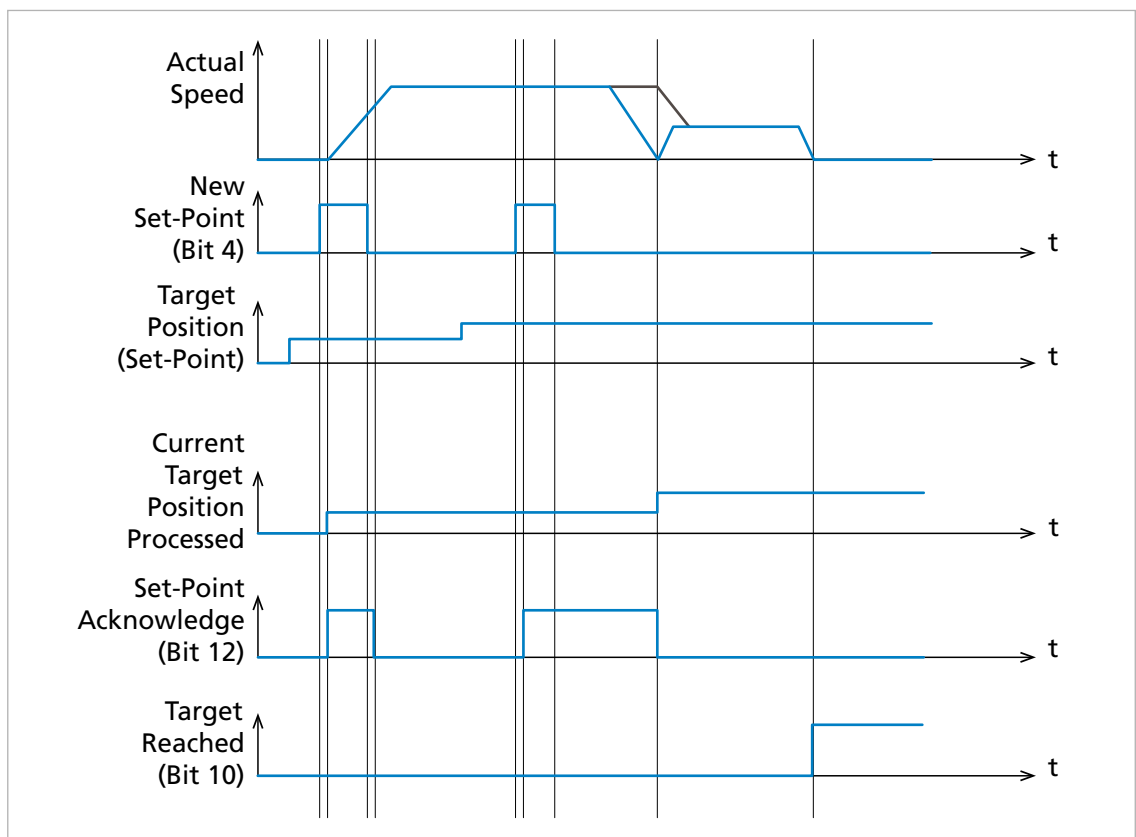

Fig. 29: Handshaking procedure for the set of set-point method
- Bit 9 of the controlword (Change on set-point) controls the dynamic behavior during the transition from one set-point to another set-point (see Fig. 29):